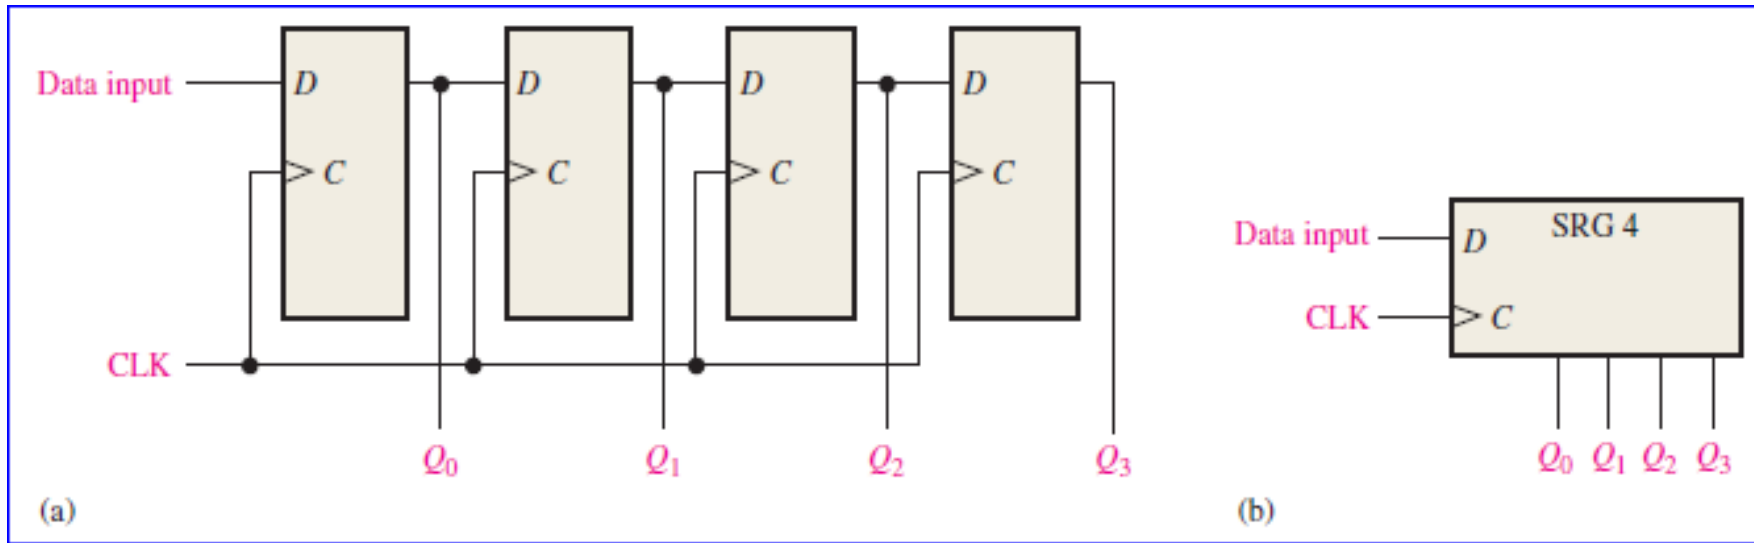

FIGURE 6 A serial in/parallel out shift register.
- Once the data are stored, each bit appears on its respective output line, and all bits are available simultaneously, rather than on a bit-by-bit basis as with the serial output. Figure 6 shows a 4-bit serial in/parallel out shift register and its logic block symbol.